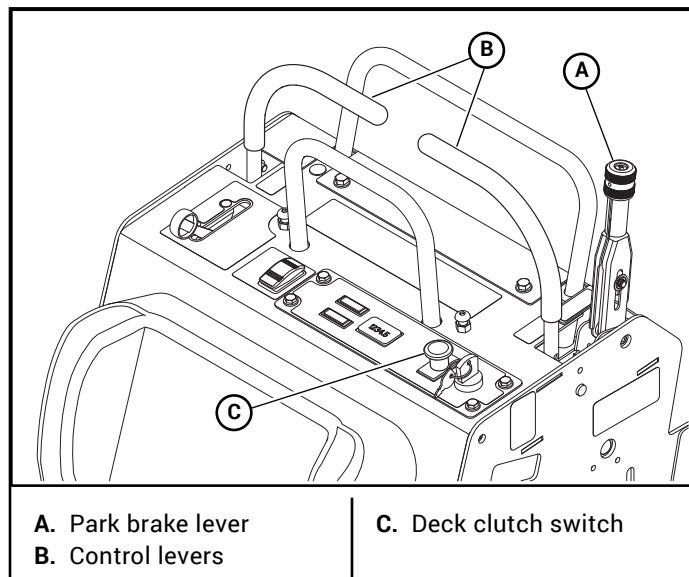

Figure 3-6
3. Place the park brake lever in the engaged park brake position. Figure 3-6